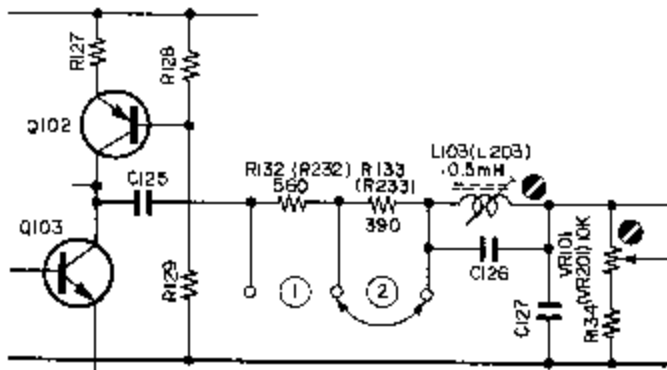

Fig. 6.5 8. Playback Frequency Response
2. Load 10 kHz, 15 kHz and 20 kHz PB frequency response tapes and adjust the playback head azimuth to give maximum levels on the VTVM with each tape. Short R132 (R232) or R133 (R233) to obtain the following levels against 400 Hz level tape. Refer to Fig. 6.5.